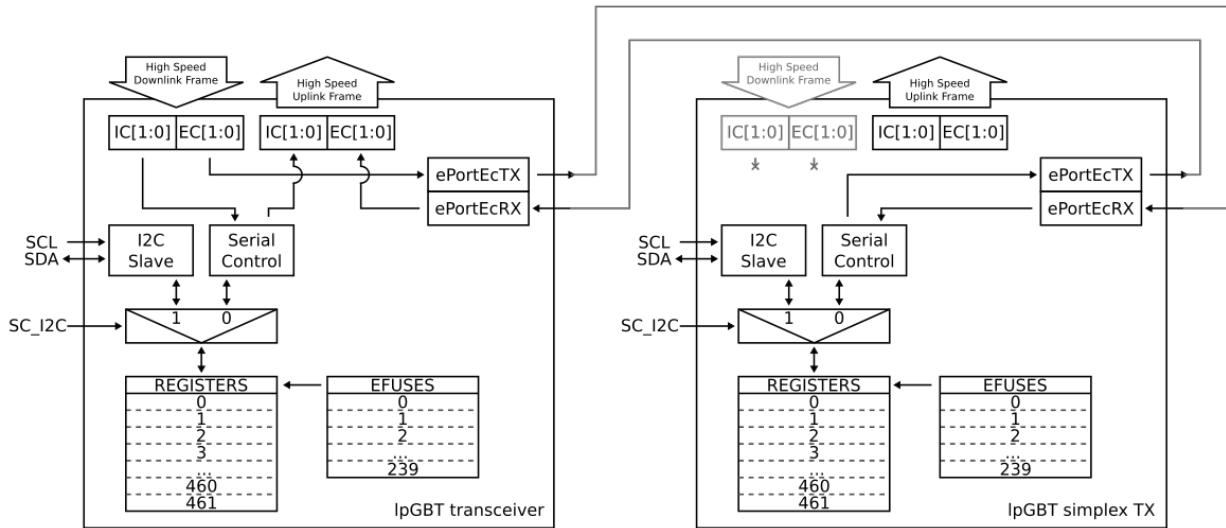

Fig. 3.1: IpGBT configuration
Figure Fig. 3.1 illustrates the different options for accessing the IpGBT registers.
2. Through the serial interface. In the transceiver mode, the data for the serial interface is taken from the GBT frame and hence requires that the full duplex link is operational to allow write and read access (see left IpGBT in figure Fig. 3.1). In the simplex mode, the data is provided by **ePortRxEc/ePortTxEc** channel (see right IpGBT in figure Fig. 3.1). In order to use this interface the external pin **SC_I2C** has to be set to 0 (which is the default value when the pin is left unconnected). This interface is described in detail in chapter Section 3.4.
The availability of IC or EC configuration interfaces is dictated by the mode of operation. If IpGBT is configured in transceiver mode, IC channel is used to control the chip. Otherwise, in simplex transmitter or simplex receiver modes, EC channel is used to control the chip (see Fig. 3.1).